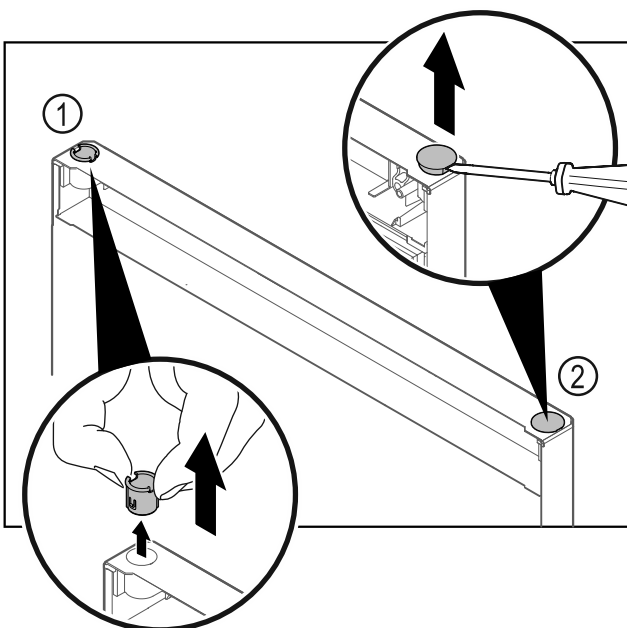

Fig. 7
- ▶ Pull out the hinge bushing Fig. 7 (1) with your fingers.
- ▶ Carefully lift the cover plug Fig. 7 (2) with a slotted screwdriver and pull it out.